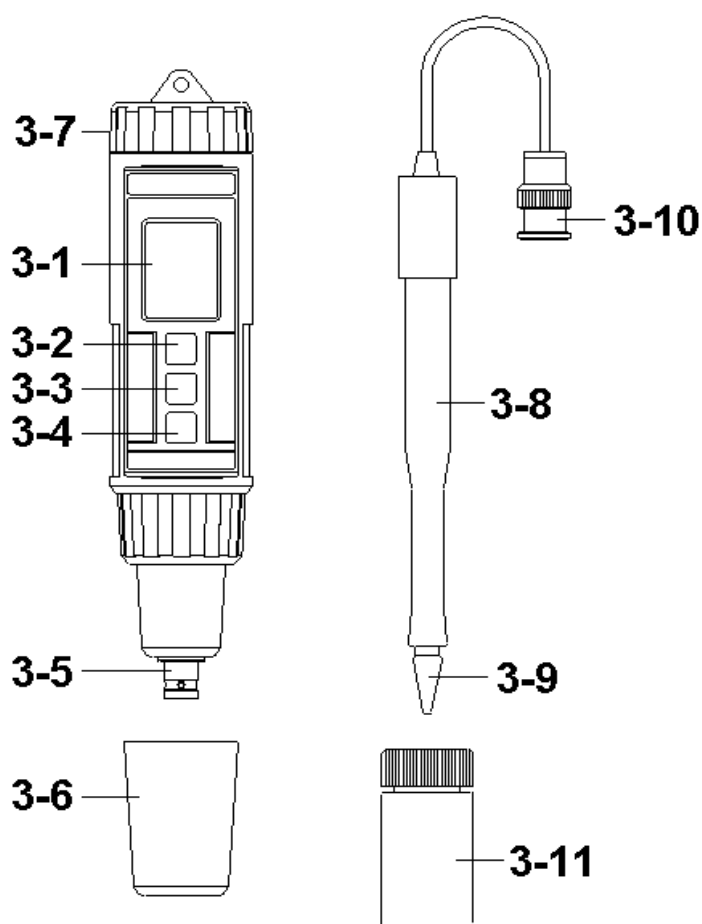

Fig. 1
- 1) Connect the pH electrode plug ( 3-10, Fig. 1 ) to the BNC socket ( 3-5, Fig. 1 ) and place electrode into pH 7.00 buffer solution ( PH-07A ).
- 2) Power on the instrument by pressing the " Power button " ( 3-2, Fig. 1 ).
- 3) Press the " Hold button " ( 3-3, Fig. 1 ) once.
Press the " ▼ button " ( 3-3, Fig. 1 ) once, the display will show following screen in sequence.
- \* When the LCD show the screen 2, it allow the user to adjust another calibration value precisely ( for example 7.01, 6.99... ) by pressing the " ▲ button " ( 3-2, Fig. 1 ) , " ▼ button " ( 3-4, Fig. 1 )'
- \* After calibration, the " Electrode sensing head " ( 3-9, Fig. 1 ) should insert into the " Protection bottle " ( 3-11, Fig. 1 ).
- 1) Connect the pH electrode plug ( 3-10, Fig. 1 ) to the BNC socket ( 3-5, Fig. 1 ) and place electrode into the measured solution.
- 2) Power on the meter by pressing the " Power button " ( 3-2, Fig. 1 ).
*\* After calibration, the " Electrode sensing head " ( 3-9, Fig. 1 ) should insert into the " Protection bottle " ( 3-11, Fig. 1 ).*
During the measurement, press the " Hold button " ( 3-3, Fig. 1 ) once will hold the measured value & the LCD will display a " HOLD " symbol.
During the measurement, press the " Display reverse button " ( 3-4, Fig. 1 ) once will reverse the display direction for the user convenience.
- 2) To replace the battery, rotate and remove the " Battery Cover " ( 3-7, Fig. 1 ), take out the old batteries, install new batteries :